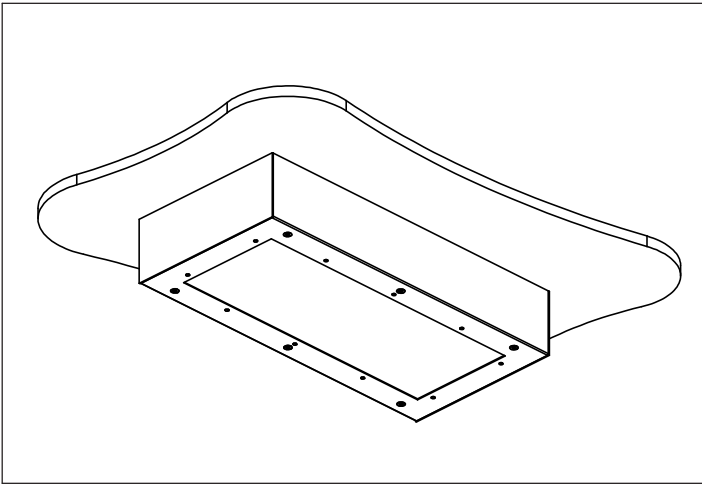

Figure 5
5. After making necessary electrical connections, re-attach housing, led gear tray and close fixture (Fig. 5)